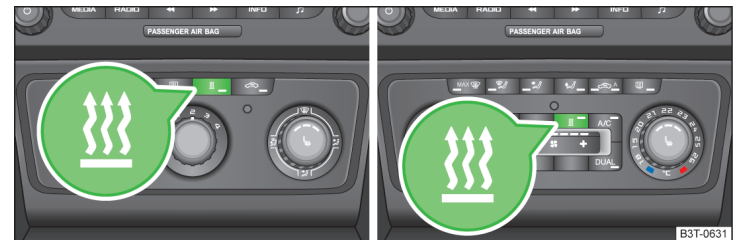

Fig. 126 Button for switching on/off the system directly on the operating part of the air conditioning/Climatronic
- ⌘ using the button on the operating part of the manual air conditioning/Climatronic. The warning light in the button lights up » Fig. 126;
- ⌘ using the button on the operating part of the manual air conditioning/Climatronic. The warning light in the button goes out » Fig. 126;
An indicator light on the button  » Fig. 126 is illuminated when the system is running.